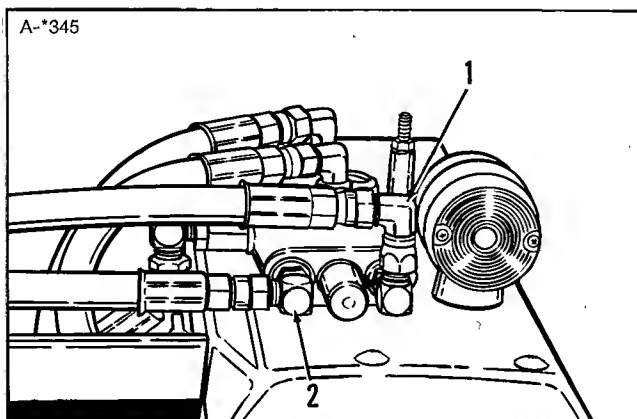

Figure 10.
20. Install the one remaining hose as follows. Connect the end with 45° bend to elbow on top of manifold. Connect the other end to right-rear elbow (1, figure 10) on control valve. Tighten both ends.
24. Install the next shortest hose as follows. Disconnect the hose from rear of manifold and install the tee valve supplied with loader. Connect the end of the new hose with the 45° bend to the tee. Connect the other end to left-rear elbow (2, figure 10) of control valve. Reconnect the existing hose to the tee.
25. Install the one remaining hose as follows. Connect the end with the 45° bend to vacant elbow on loader valve (hose was removed in step 23). Connect the other end to right-rear elbow (1, figure 10). Install cover (8, figure 7) and handle (2) as shown. This completes the installation.